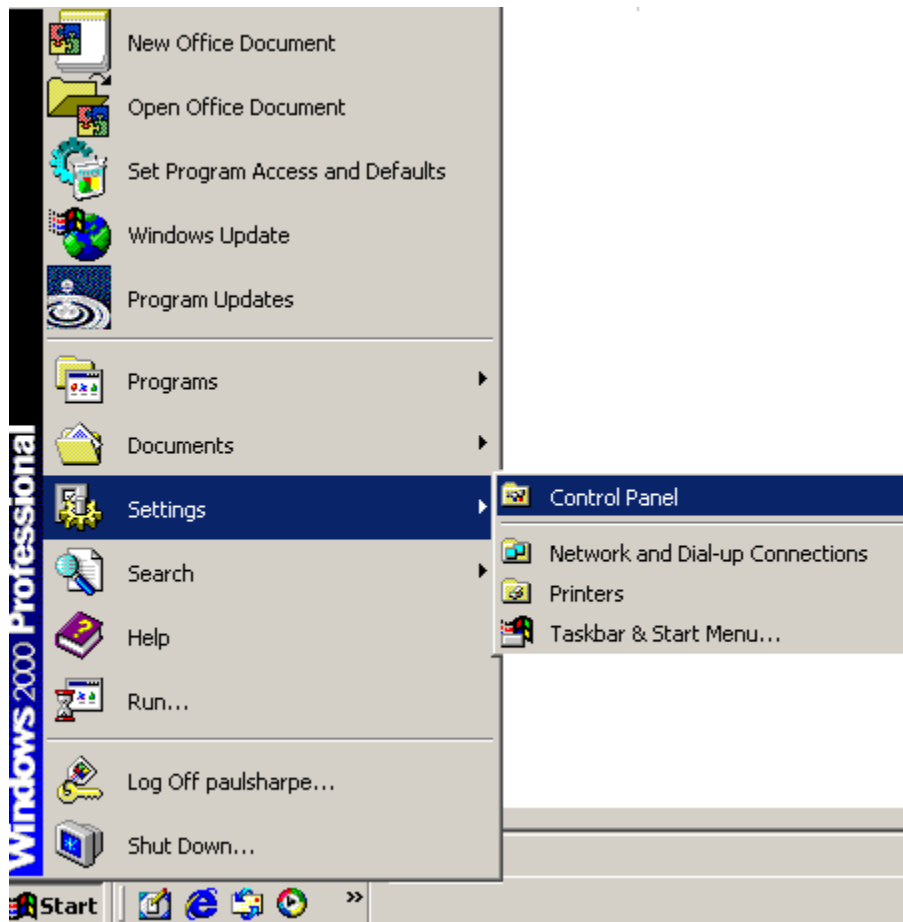

Figure 6-3: Access Windows Control Panel
Step 1: Open **Windows Control Panel** (Figure 6-3).